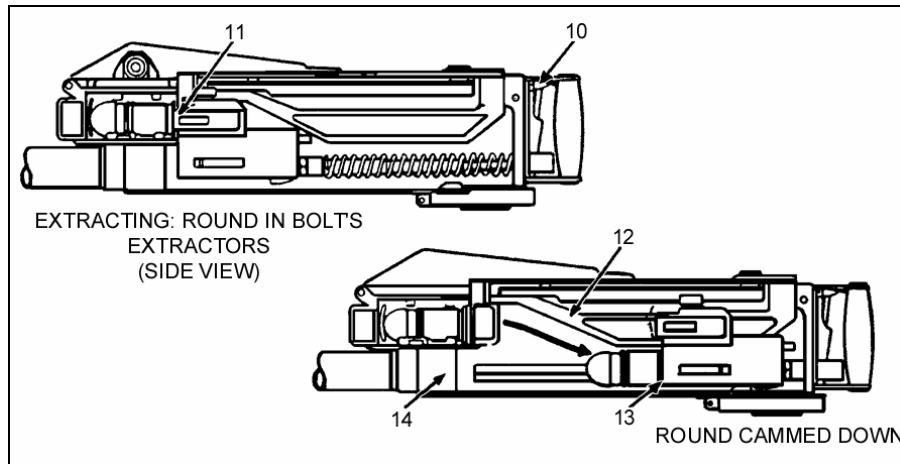

Figure 2-2. Extracting (delinking) round.
b. **Extracting (Delinking).** When a round is stripped from the belt, it is extracted or “delinked.” This happens, after the MK 19 has been charged once, when the trigger (10) is pressed. The bolt slams forward and the bolt’s extractors (11) snap over the rim of the cartridge case. When the MK 19 is charged again, the extractor pulls the leading round to the rear and separates the male and female links. The curved edge of the vertical cam (12) forces the lead round out of the extractors and into the bolt fingers (13). With the bolt completely to the rear, the round lines up with the chamber (14), and is ready to fire. As the original leading round chambers, the next round aligns with the bolt extractors. See Figure 2-2.